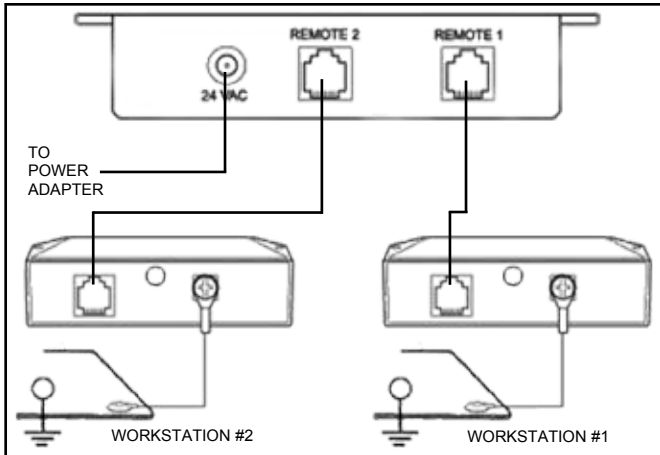

Figure 4. Wiring connection instructions for the 50516 / 50517 monitor control unit.
Figure 4 shows the monitor control unit as it is viewed from the rear, with the work surface wiring in place.
1. Use the rear phone jack connections and connect the Satellite Remote Units to the base unit with the phone cables. See Figure 4 for wiring connection instructions.
4. Confirm that worksurface surface resistance is 1×10^7 ohms or less. Connect the ring terminal end of the worksurface cord included with the unit to the screw on the back of the satellite. Snap the other end to the worksurface grounding point as shown in Figures 4 and 5.